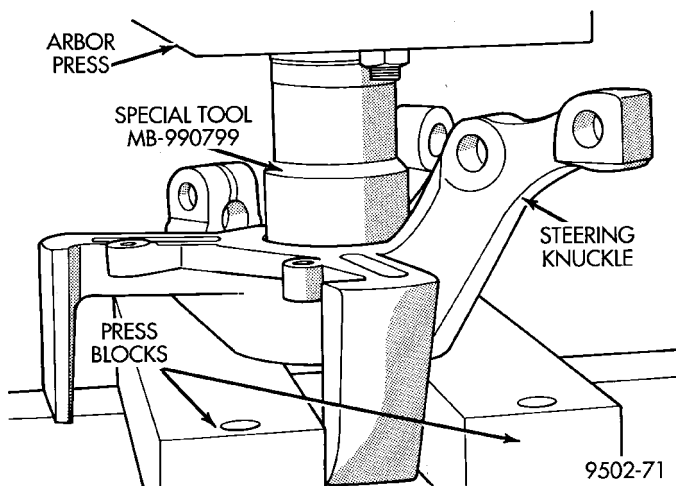

Fig. 47 Hub Bearing Removal From Steering Knuckle
(7) Place steering knuckle in an arbor press (Fig. 47) supported by press blocks as shown. Press blocks must not obstruct hub bearing bore in steering knuckle so bearing can be pressed out of knuckle. Place Bearing Driver, Special Tool MB-990799 on outer race of hub bearing (Fig. 47). Press hub bearing completely out of the steering knuckle.